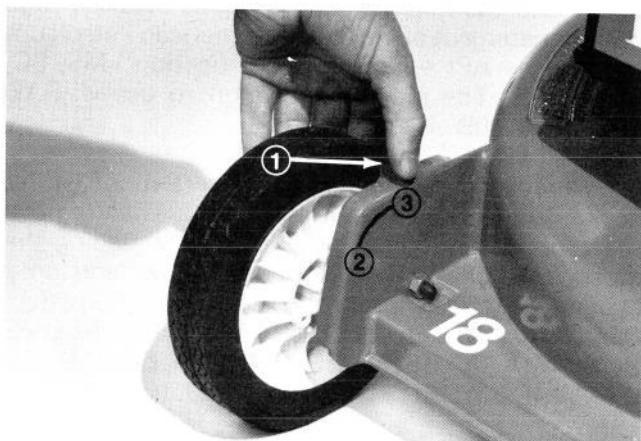
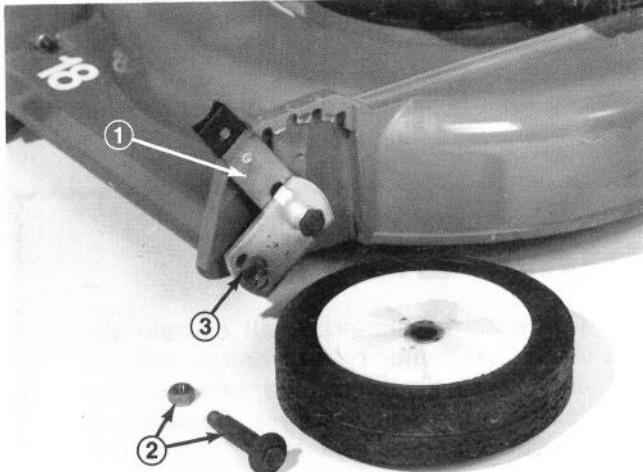

Figure 12
Figure 13
**Height-of-Cut Adjusters** (Fig. 12) — Height-of-cut is adjustable to one of five approximate settings: 1 in. (25.4mm), 1-1/2 ins. (38.10mm) 2 in (50.8mm) 2-1/2 in. (63.5mm), or 3 in. (76.2mm). In addition, height can be set from approximately 1/2 in. (12.70mm) to 2-1/2 in (63.5mm) by relocating wheel mount bolts in different holes in height-of-cut brackets (Fig. 13).
2. Place thumb against height-of-cut adjuster and fingers on outside of wheel (Fig. 12).
1. Position height-of-cut adjuster in "E" height-of-cut setting, slide an open end wrench over locknut at rear of wheel mounting bracket, use a box end or socket wrench over wheel bolt and remove wheel bolt and wheel from bracket (Fig. 13).
2. Install wheel and wheel bolt into top hole in bracket and secure with locknut (Fig. 13).